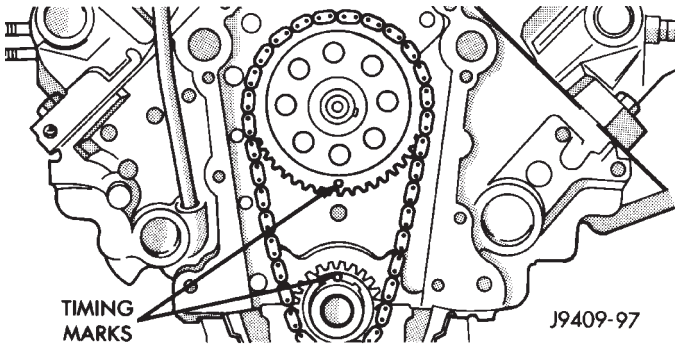

Fig. 7 Alignment of Timing Marks
(9) Lift sprockets and chain (keep sprockets tight against the chain in position as described).
(10) Slide both sprockets evenly over their respective shafts and use a straightedge to check alignment of timing marks (Fig. 7).